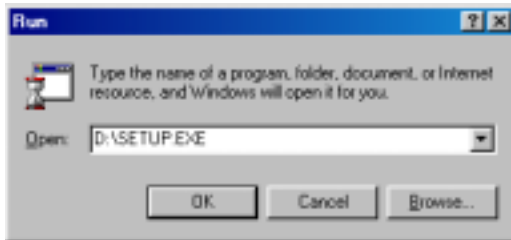

Figure 1: starting up installation
3. The CD-ROM automatically starts up the Trust Software Installer (see figure 1). If yours does not start up automatically, select 'Run' in the Windows start menu.